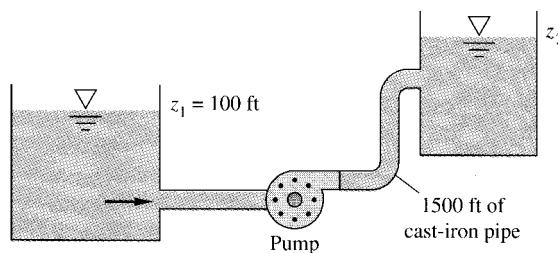

Fig. P11.70
**11.70** The pump of Prob. 11.28, operating at 2134 rpm, is used with water at 20°C in the system of Fig. P11.70. The diameter is 8 inches. (a) If it is operating at BEP, what is the proper elevation  $z_2$ ? (b) If  $z_2 = 225$  ft, what is the flow rate?